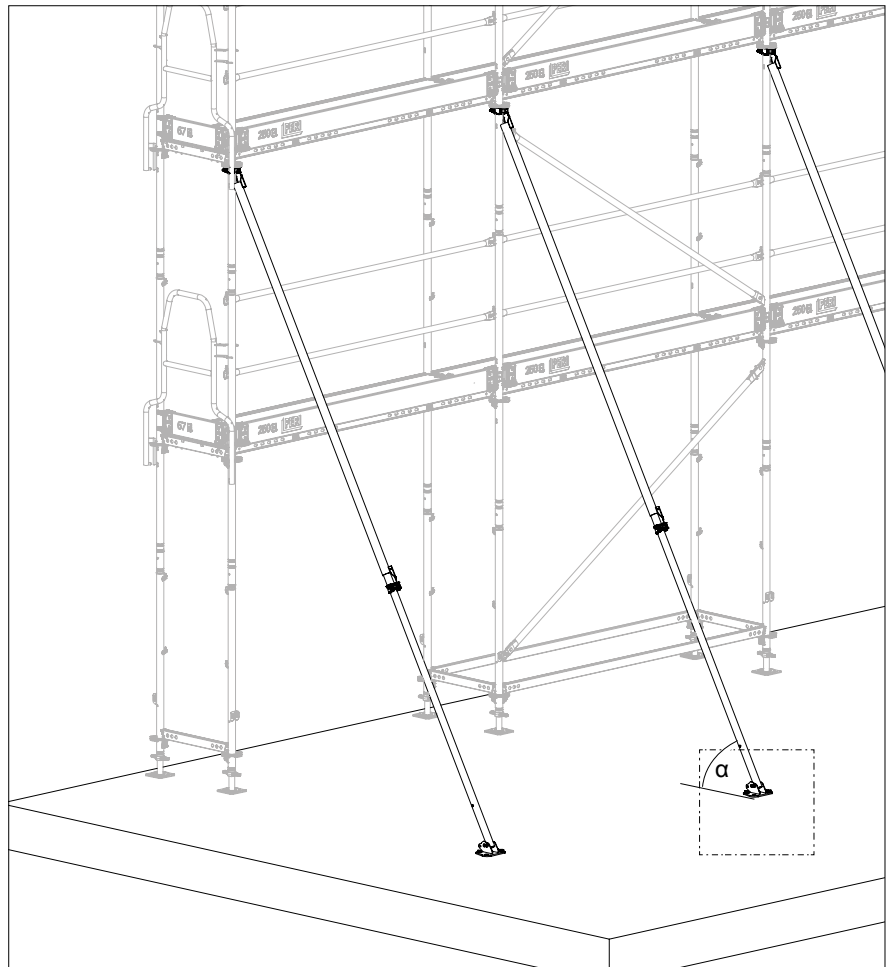

Fig. C4.01a
- The force application must be close to the horizontal ledger. (Fig. C4.01a)